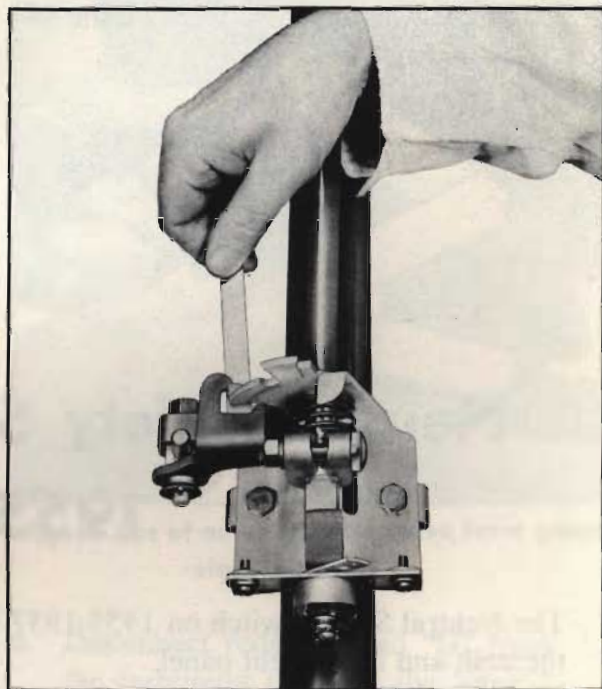

Fig. 10. Reverse stop to lower lever clearance
4. With the selective lever in the Reverse position, check the clearance between the reverse stop on the control shaft lower support and the lower lever. The clearance should be $.090''$. (Fig. 10).